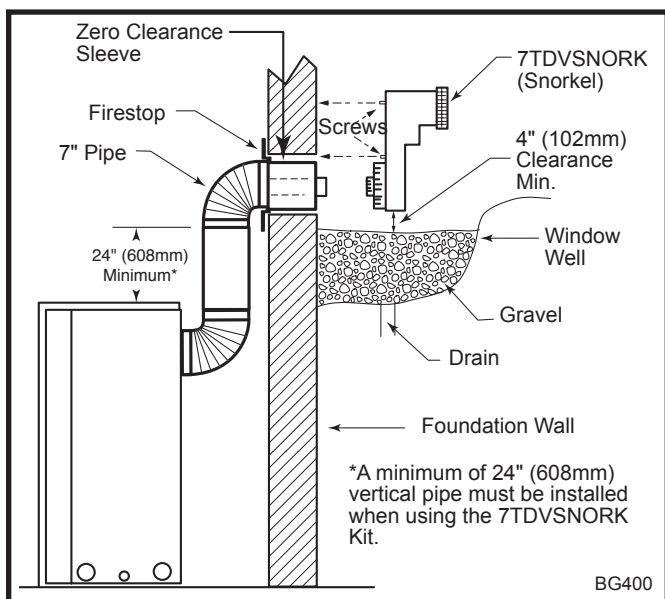

Fig. 28 Below grade installation.
2. Remove soil to a depth of approximately 16" (406 mm) below base of snorkel. Install window well (not supplied). Refill hole with 12" (305 mm) of coarse gravel leaving a clearance of approximately 4" (102 mm) below snorkel. (Fig. 28)
7. Level the soil to maintain a 4" (102 mm) clearance below snorkel. (Fig. 28)